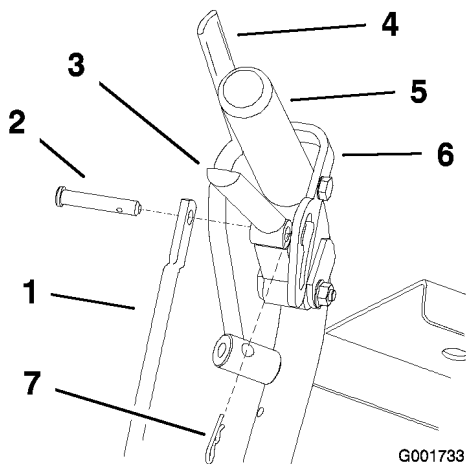

Figure 21
- Remove the hairpin cotter pins and clevis pins from the drive levers and neutral locks (Figure 21).